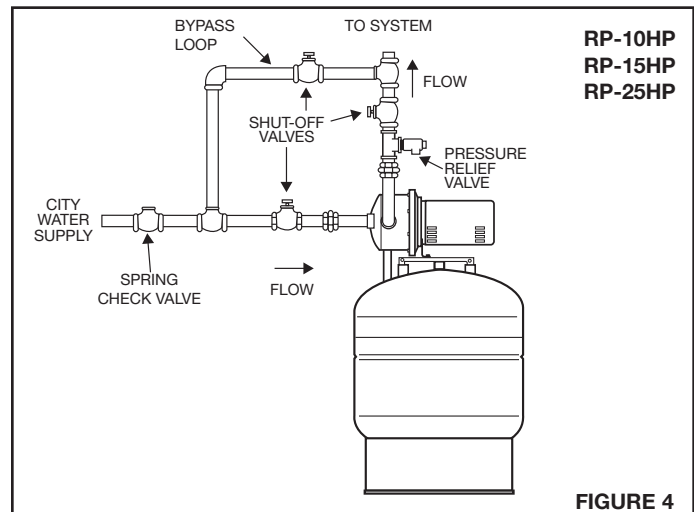

FIGURE 4
Using Figure 4 as a guide, position the AMTROL Pressuriser® in the desired location. A bypass loop, as shown in Figure 4 is required.
Step 2: Install a by-pass loop as shown in Figure 4.
Step 4: Connect the house supply line as shown in Figure 4 to the AMTROL Pressuriser®, using a 100 psig maximum relief valve as shown. It is important that the pressure relief valve be installed on the pump discharge prior to any shut off valves.